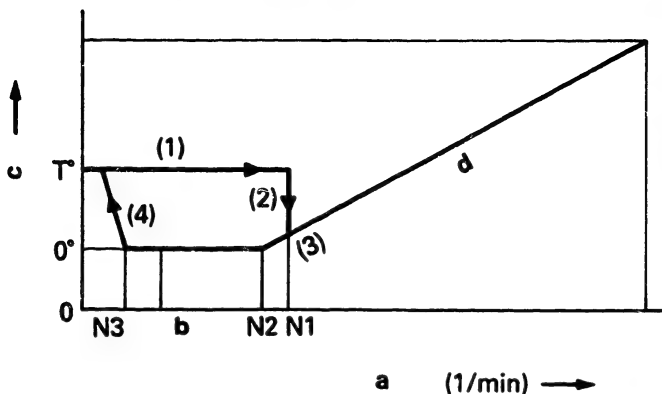
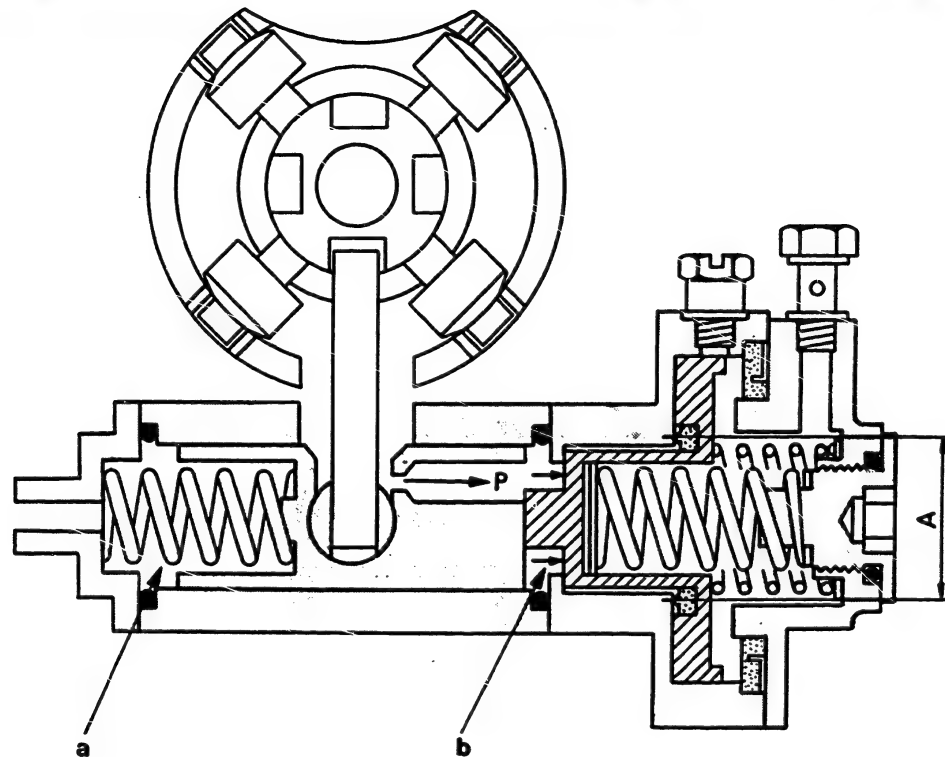

Fig. 28 Timing characteristic
Fig. 29 C.S.D. engagement
Fig. 28 shows the range of the C.S.D. operation against the timing characteristic curve.
**Range (4):** In this range, the C.S.D. piston's spring force exceeds the force of the fuel pressure in the VE pump housing, as fuel pressure declines with a decline in pump speed (i.e. the C.S.D. is re-engaged.)
**Range (1): C.S.D. engagement**
When pump speed is less than N1 rpm (See Fig. 28), the fuel pressure (P) applied to the surface area "A" in Fig. 29 is smaller than the C.S.D. springs' forces.
Therefore, the C.S.D. piston is forced in the advance direction (to the left in Fig. 29) by the force of the C.S.D. springs.
When pump speed decreases through range (3) in Fig. 28 and approaches idling, the pressure applied to area "B" of the C.S.D. piston also decreases. Consequently the C.S.D. spring force will overcome the C.S.D. piston pressure, moving the C.S.D. piston to the left (See Fig. 30). The C.S.D. piston will then move the timer piston, and the injection timing will advance along range (4) in Fig. 28 until it reaches an angle of T°.